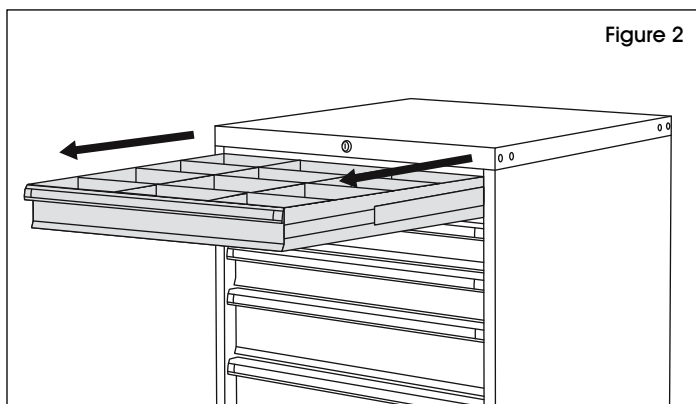

Figure 2
2. Open top drawer as far as it will go. (See Figure 2)
(Voir Figure 2)